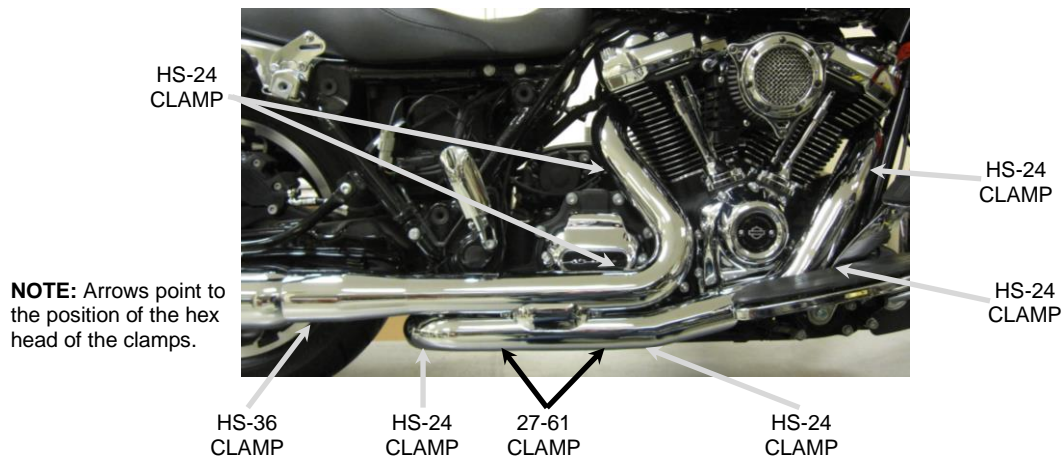

FIGURE 10
21. Remove the heatshields and hose clamps from packaging. Unscrew the hose clamps and feed the tail end of the clamps through the clips on the inside of the heatshield so the screws are accessible with a screwdriver once the heatshield is installed. The large HS-36 hose clamp goes on the rear clip on the rear heatshield. See **FIGURE 10 & 12** for proper positioning of the clamps on the heatshields. (NOTE: The **arrows point to the positioning of the hex head of the clamps**. The hex head of the clamps should be accessible for tightening but not visible when the heatshields are mounted to the pipes.)
22. Install the right rear heatshield over the rear headpipe. (Hint: Spread the hose clamps apart slightly to make it easier to slide them over the headpipes.) Align the heatshield with the headpipe and the collector heatshield. There should be an even gap around the collector heatshield. Snug the clamps but **DO NOT TIGHTEN** at this time. See **FIGURE 10 & 11**.
23. Install the right front heatshield over the right front headpipe. (Hint: Spread the hose clamps apart slightly to make it easier to slide them over the headpipes.) Align the heatshield with the headpipe and the collector heatshield. There should be an even gap around the collector heatshield. If the heatshield does not align well with the collector heatshield then the rear crossover pipe may need to be loosened and pushed forward or backward. When the heatshield is aligned properly snug the clamps but **DO NOT TIGHTEN** at this time. See **FIGURE 10 & 11**.